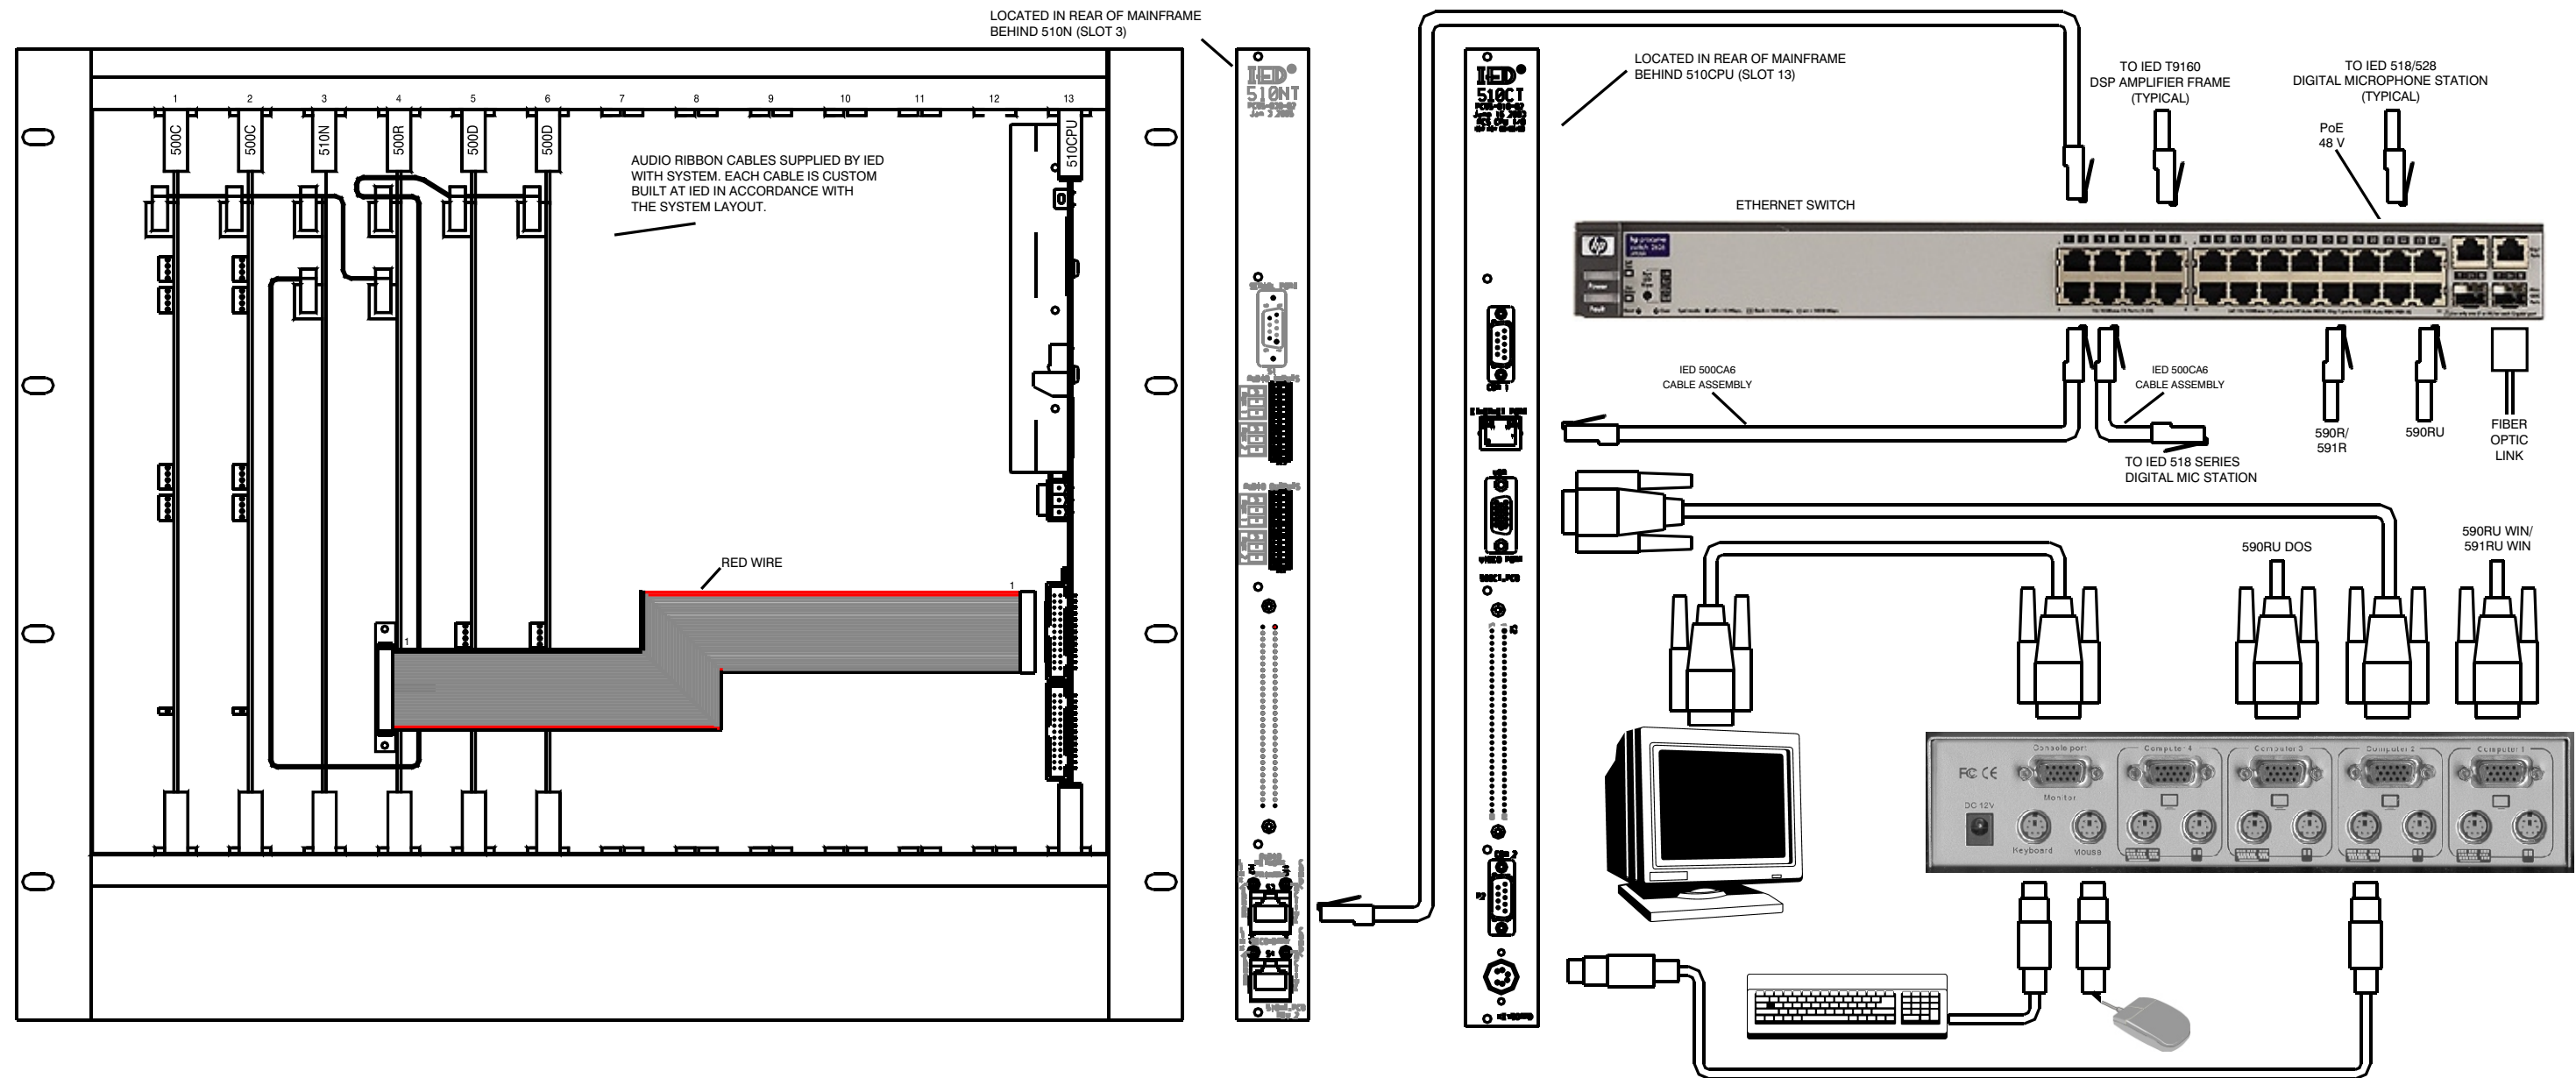

Figure 5 - 500ACS With 510CPU
8. Install the audio bus ribbon cables between the 500C cards and the 500R. See Figure 5. In all cases, follow the Mainframe Layout Chart. Be sure that the red stripe faces the front of the mainframe. These cables are supplied with the system and are custom made at IED for each specific application.
9. Install the audio bus ribbon cables between the 500D cards and the 500R. See Figure 5. In all cases, follow the Mainframe Layout Chart. Be sure that the red stripe faces the front of the mainframe. These cables are supplied with the system and are custom made at IED for each specific application.
10. Plug the 500CA6 cable into the Ethernet connector on the back of the 510CT. Refer to Figure 5. If it does not plug in easily, turn it 180°. **Forcing or plugging in upside down will damage the 510CT and void the warranty.** Connect the other end to the Network Switch. Refer to Figure 5.
11. If using the 510N, plug a 500CA6 cable into the back of the 510NT. Connect the other end to the Network Switch. See Figure 5.
12. Connect the 500R lower connector to the 510CPU with the 500CA5 cable. See Figure 5. Make sure that the red stripe is up at the 510CPU and oriented correctly on the 500R. See Figure 5.
13. Plug one end of a 500CA6 Cable into the rear of the 590R Computer. Plug the other end into the IED 0904 Network Switch. Refer to Figure 5.
14. Plug the cable attached to the keyboard into the 500VS4L/H Video/Keyboard Switcher, keyboard connector, console position. Refer to Figure 5.
15. Plug the video cable attached to the monitor into the 500VS4L/H Video/Keyboard Switcher, monitor connector, console position. Refer to Figure 5.